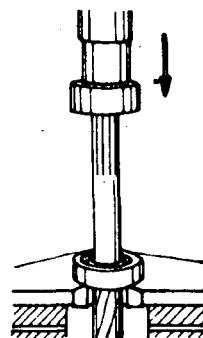

Fig. 7
- e) Remove the bearing by using an extractor (fig. 7).